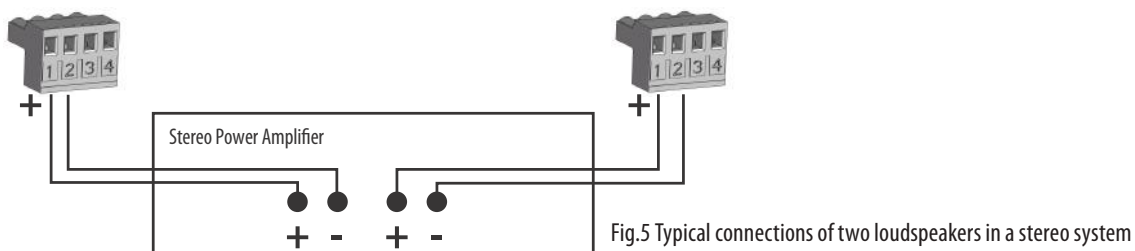

Fig.5 Typical connections of two loudspeakers in a stereo system
4. Slide the tile panel back into the suspended ceiling. The tile bridge ends will catch over the railings, supporting the weight of the speaker. (Fig.5)